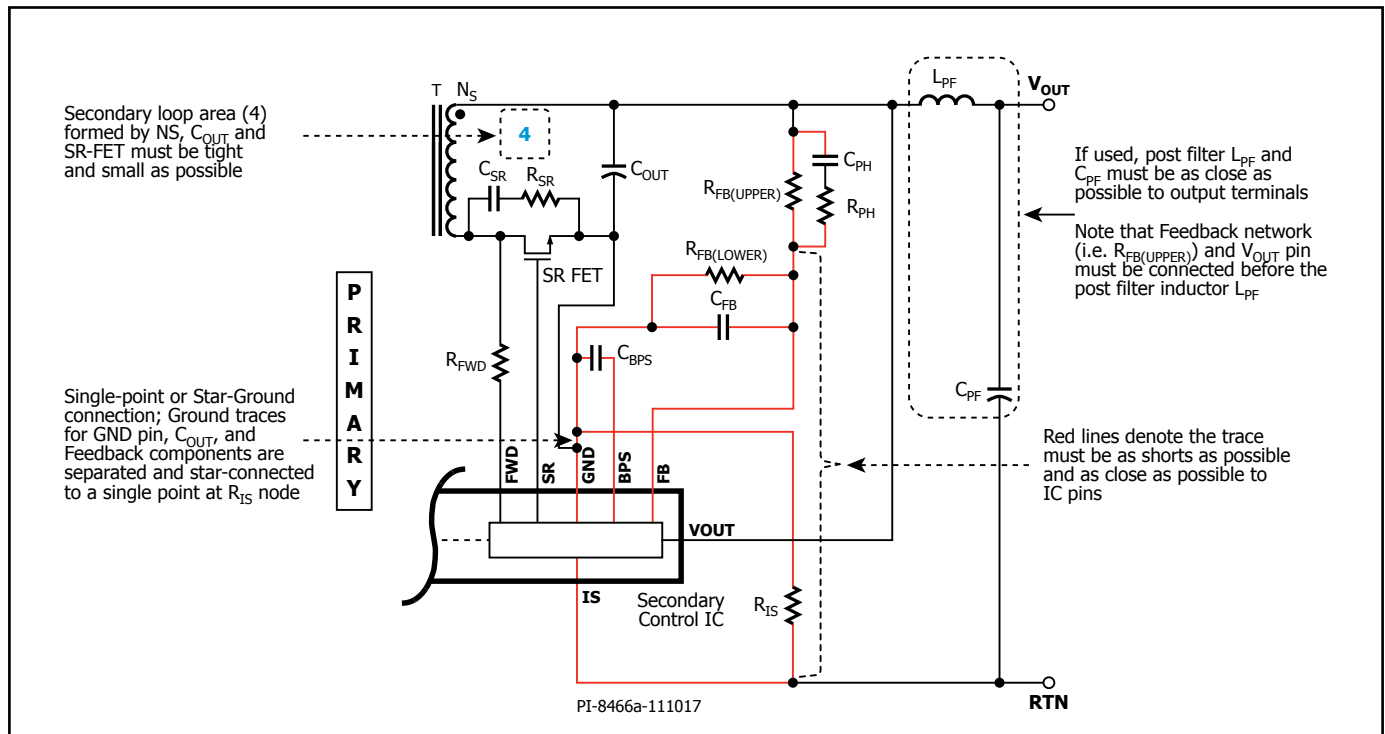

Figure 19. Typical Schematic of InnoSwitch3 Primary-Side Showing Critical Loops Areas, Critical Component Traces and Single-Point or Star Grounding.
Use a single-point ground connection from the input filter capacitor to the area of copper connected to the SOURCE pin. See Figures 19 and 20.
Figure 21. TOP and BOTTOM Sides – Ideal Layout Example Showing Tight Loop Areas for Circuit with High dv/dt or di/dt, Component Placement and Spark-Gap Location in Reference to Figures 19 and 20.
1. Appropriate component placement and small loop areas of the primary and secondary power circuits help minimize radiated and conducted EMI. Care should be taken to achieve a compact loop area. (See Figures 19 and 20)